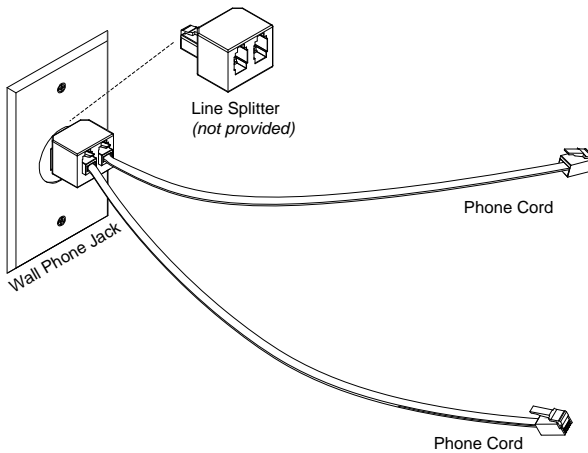

Figure 7: Phone Line Splitter
1.	Plug the line splitter into the wall jack as shown in Figure 7.
2.	Plug one phone card into one jack on the line splitter, as shown in Figure 7.